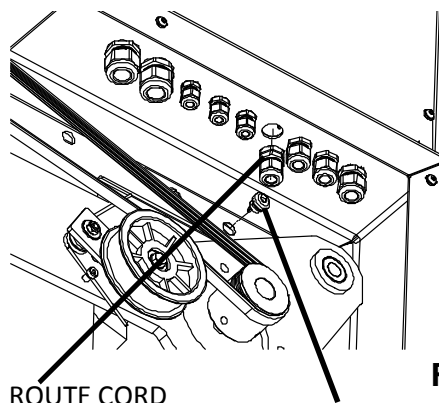

FIG. 7
4. Route the cord through the .625 hole located on the right side of the machine above the grinding motor and secure with strain relief 5NT3707273. See FIG. 7.